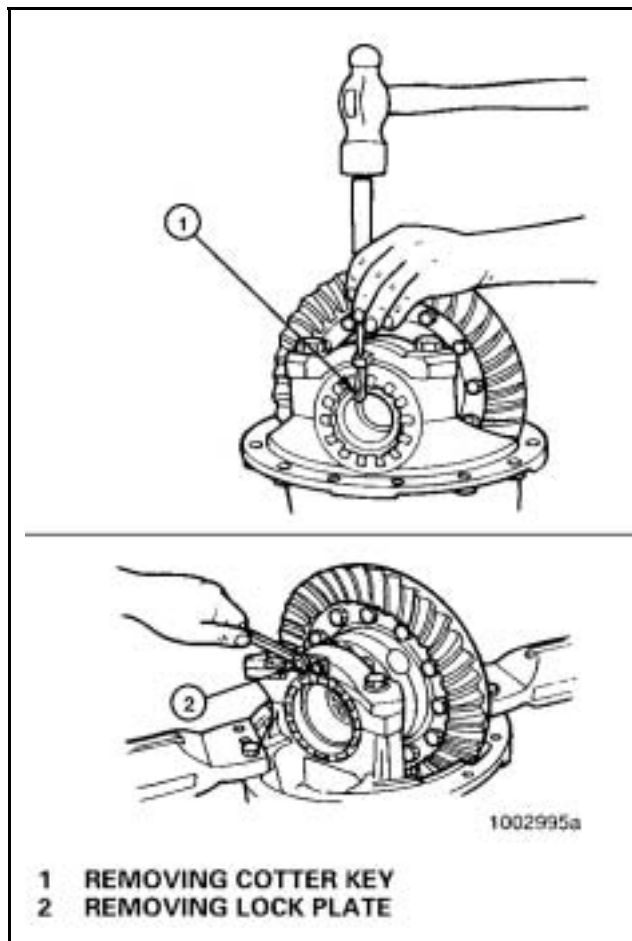

Figure 14
5. Remove the cotter keys*, pins*, or lock plates* that hold the bearing adjusting rings in position. Use a small drift and hammer to remove pins. Each lock plate is held in position by two capscrews. **Figure 14.**